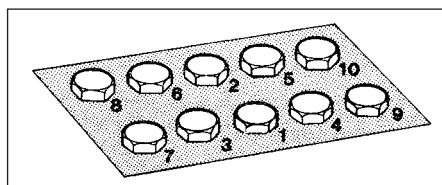

Fig. 13.17 Cylinder head bolt tightening sequence on the 1372 cc ie and Turbo ie engines (Sec 7B)
- 114 Loosen off the cylinder head retaining bolts in a progressive manner, reversing the sequence shown in Fig. 13.17. When all of the bolts are loosened off, extract them and collect the washers.
- 121 The bolts must now be tightened in stages and in the sequence shown in Fig. 13.17. Refer to the specified torque wrench settings and tighten all bolts to the Stage 1 torque, then using a suitable angle gauge, tighten them to the second stage, then the third stage (photos).